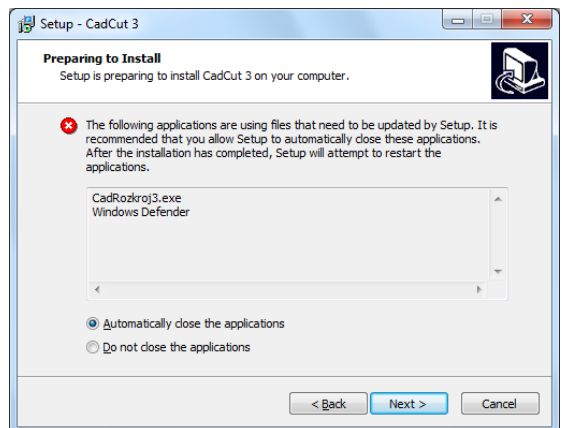

Fig. 14 – warning about running programs
- If the installation wizard detects any colliding running applications, it will inform you about this fact before starting the installation (Fig. 14).